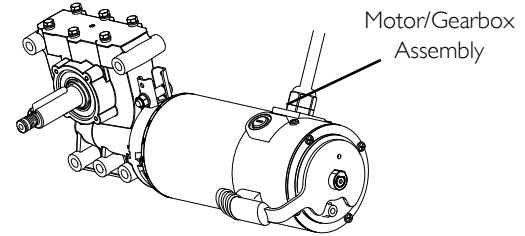

FIGURE 6 Wheel Lock Installation Identification
- Motor assembly Resembles FIGURE 6 - Refer to Installing Wheel Locks for Motor/Gearbox Assemblies on page 107.